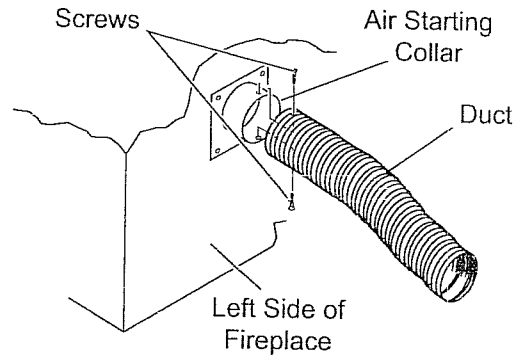

Figure 19 - Attaching Outside Duct to Starting Collar
4. Attach outside duct to starting collar with duct clamp or screws. *See Figure 19.*
6. Select and cut a piece of duct long enough to attach to the fireplace and stick out at least 3" beyond the face of the wall to which the AK-4 inlet air vent will be attached. *See Figure 19.*